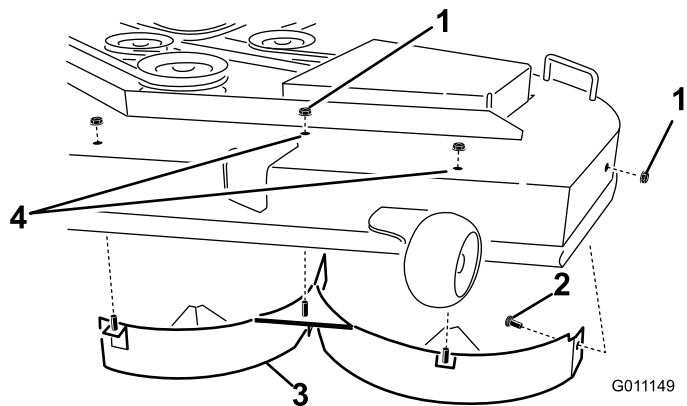

Figure 32
4. Remove the 3 locknuts (5/16 inch) secured to the welded posts of the left baffle on the top of the mower deck at the center, left of center, and left positions (Figure 32).
5. Remove the carriage bolt and locknut on the side wall of the mower deck securing the left baffle to the deck (Figure 32).
6. Remove the left baffle from the mower deck (Figure 32).
7. Locate the 2 bolts in loose parts and use the existing locknuts and install these fasteners into the holes shown in Figure 32 on the mower deck to prevent flying debris.